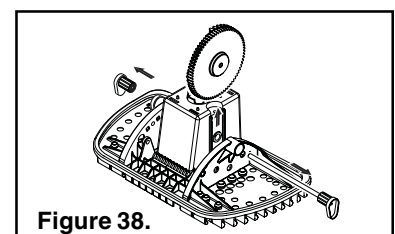

Figure 38.
6. Remove the Shaft Plug with the stainless steel shaft and the Large Steering Drive Assembly, (see Figure 38).